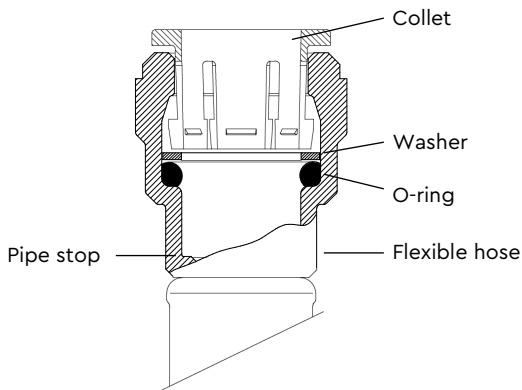

Figure 11
2. Check in the mouth of the fitting that the 'O'-ring, nylon washer and collet are in position as shown in Figure 11.